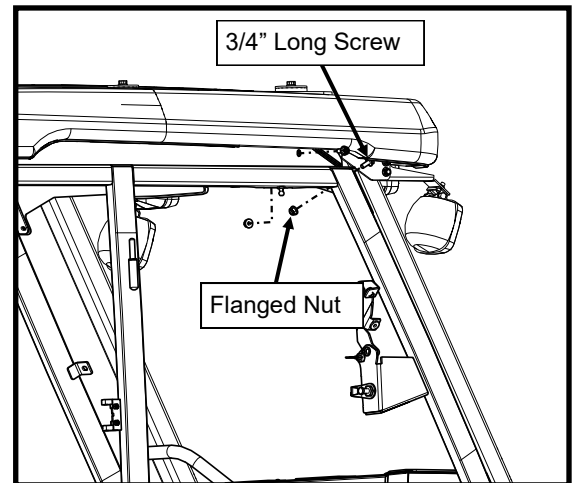

Figure 6.2: Side Frame to W/S Support Bolts
6.2 With assistance, set the side frame up under the roof and onto the floor board and fasten the side frame to the windshield support (see Figure 6.2). Use the top hole on the front part of the windshield support, as the lower hole will be used with the windshield itself. Leave hardware loose.